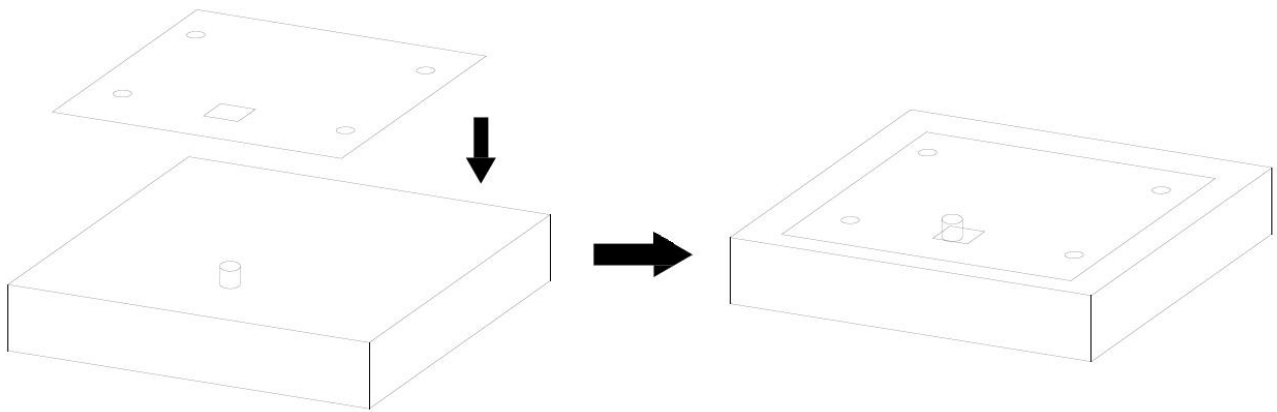

Figure 8
- Place the plotting sheet on the concrete foundation and align cable holes on the plotting sheet with those on the foundation, as shown in Figure 8.